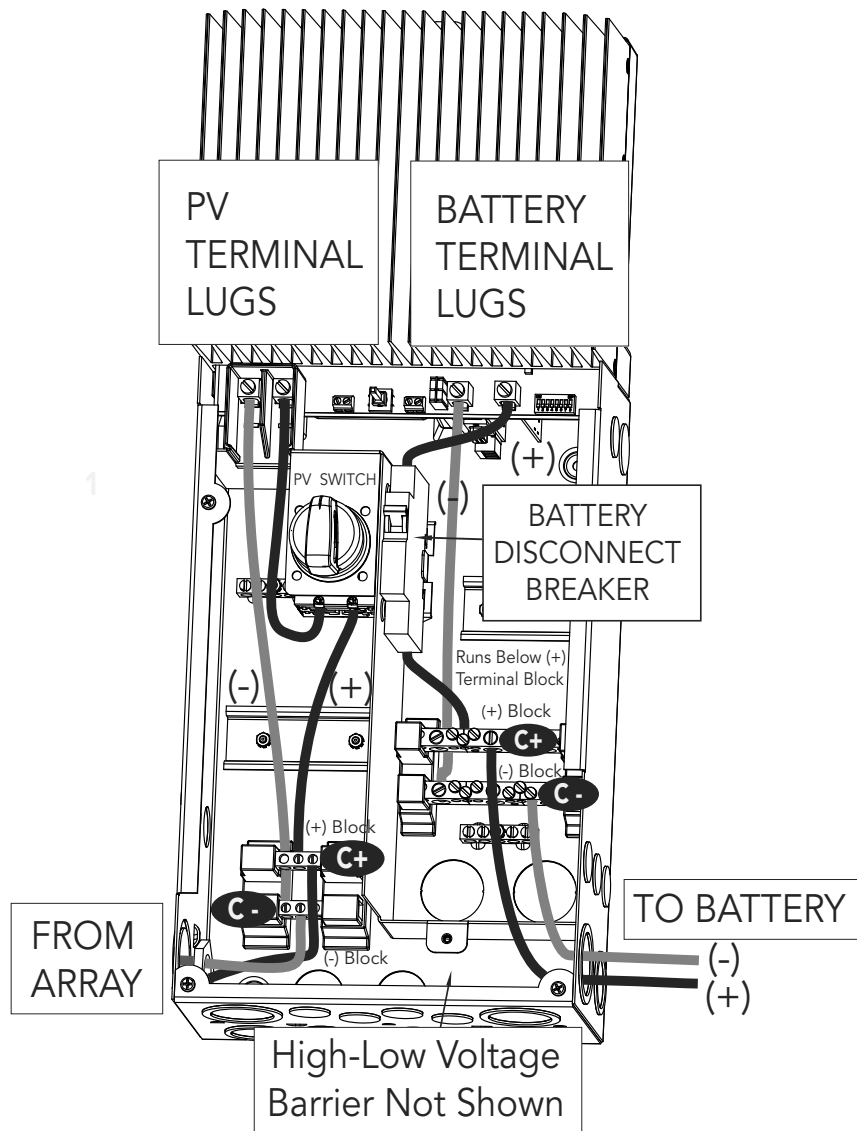

Figure 3-15. Power Terminal Locations
Connect the four (4) power conductors shown in figure 3-15 as described in the following steps:
2. Pull solar and battery wires into the Disconnect Box (DB). The Remote Temperature Sensor (RTS) and Battery Sense wires can be routed inside conduit along with the battery power conductors, if required. The RTS and Battery Sense wires CANNOT be routed in the same conduit with the high voltage solar conductors. It is easier to pull the RTS and Sense wires before the power cables.